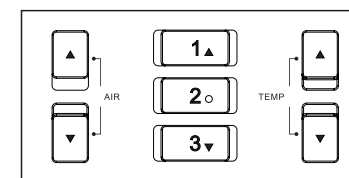

FIG. 1-6
1. Retrieving shortcut temperature: It can rapidly retrieving preset temperature and blowing restored in Button "1" / "2" / "3" by pressing Button "1" / "2" / "3". (FIG. 1-6) when working